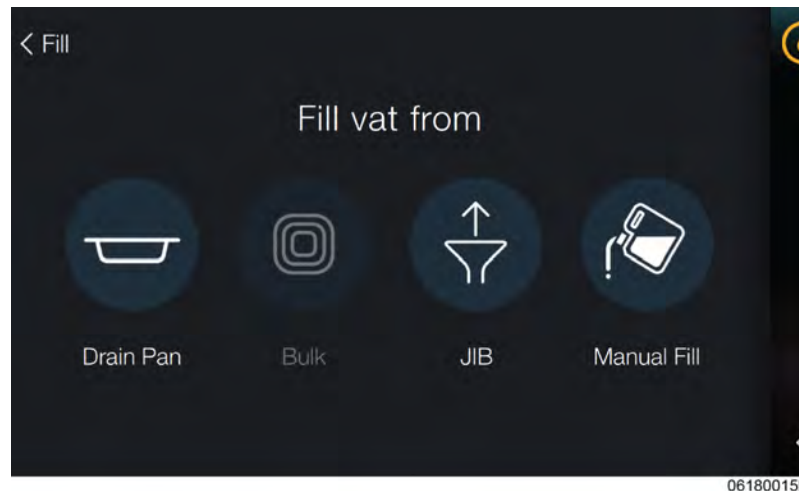

Figure 5-7 Fill Vat
- **Cart** - Tap **Cart** then remove the empty drain pan. Open the lid on the ODS (available separately) and insert it under the fryer ensuring that the drain spout aligns with the opening on the ODS. Tap **Ready** once installed. Once oil has finished draining, tap **Complete**. Roll the ODS out from under the fryer. Close and latch the lid to transport. Select from **Drain Pan**, **Bulk**, or **Manual Fill** to refill the vat, see Figure 5-7 Fill Vat, page 43 for an understanding of fill indicators. Select **Done** when finished.
The Fill Vat option provides four options to fill the vat with oil, see Figure 5-7 Fill Vat, page 43. Tap the desired fill method icon and follow the prompts to fill the vat with oil. The four fill options are as follows:
- **JIB** - Tap **JIB** then tap and hold **Fill** to fill the vat from the JIB, see Figure 5-7 Fill Vat, page 43 for an understanding of fill indicators. Select **Done** when finished. **INFO:** To save time, use the **Manual Fill** option to fill an empty vat with oil rather than the slower option to fill the entire vat from the JIB.
- **Manual Fill** - Manually pour oil from a JIB into the vat. Tap **Done** when filled, see Figure 5-7 Fill Vat, page 43 for an understanding of fill indicators.